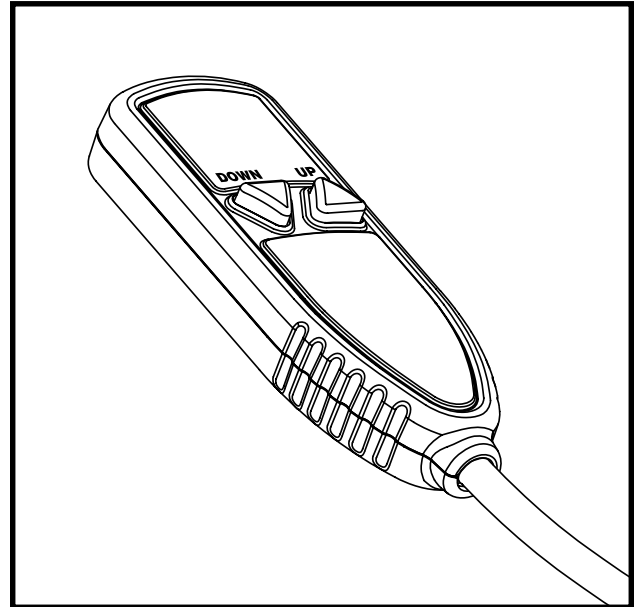

Figure 7. Hand Control
1. Press and hold the “DOWN” button. See figure 7.
6. Press and hold the “UP” button. See figure 7. The lift will move up to its highest lift point, then slide into the van. Once the mobility device is stowed completely within the van, release the button.